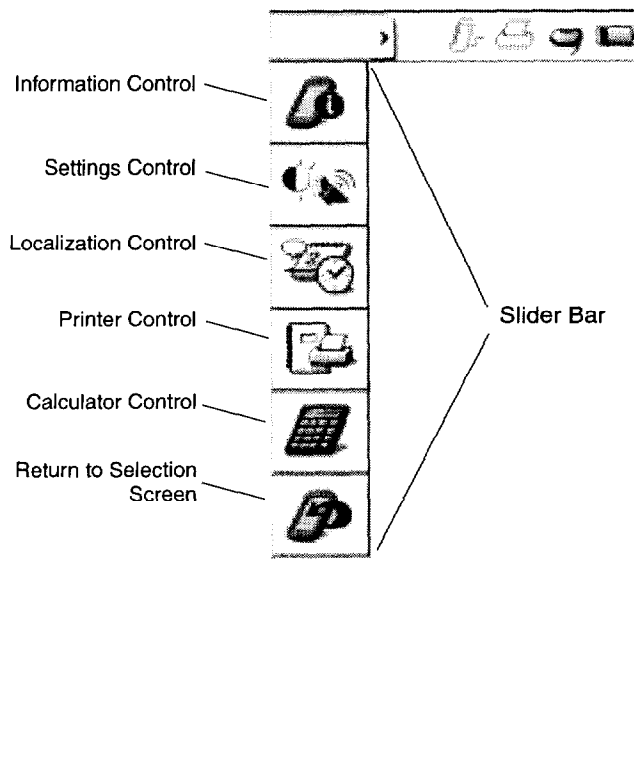
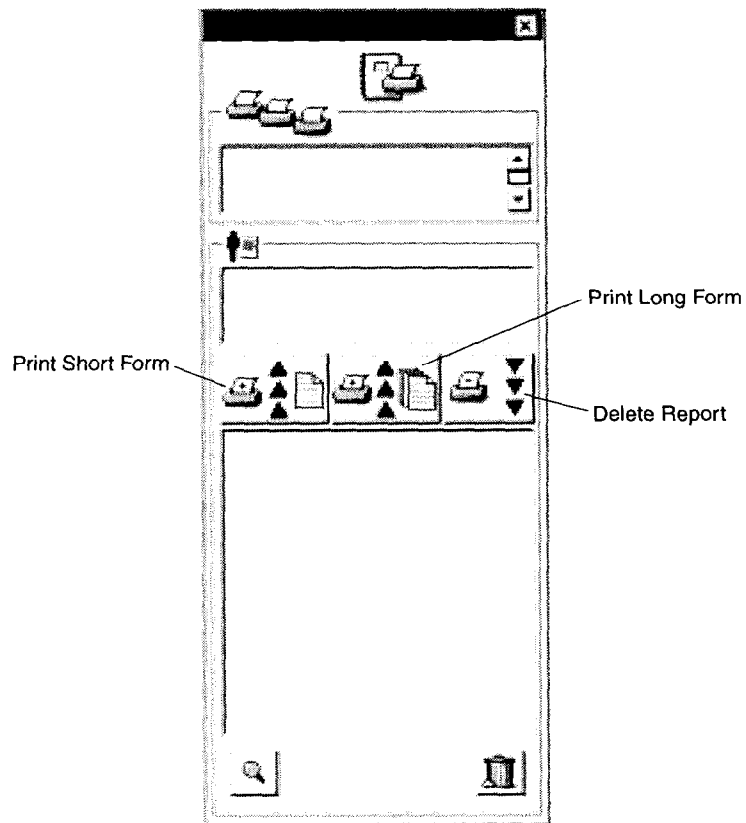

Figure 3-10. Slider Bar Icons
Figure 3-14. Session Data Manager Screen
Various functions are accessible through the icons (Figure 3-10) on the Slider Bar.
- The **Printer Control** icon gives access to printer options. Using the stylus, select the appropriate printer from the available list (Figure 3-14). The N'Vision Programmer interfaces with the Seiko™ Model DPU 3445. Other printers with IR capability may be supported, also.
To retrieve patient data, select the Printer Control icon (Figure 3-10). A list of patient sessions will be displayed in the lower rectangle on the screen. Select a report for viewing using the stylus. To print a report, with the desired report highlighted in the list, touch the printer icon with the "+" on the left for short form or with the "+" in the middle for long form (Figure 3-14). To delete a report from the printer queue, highlight the report in the printer queue list and touch the printer icon with the "-" on the right above the session list.